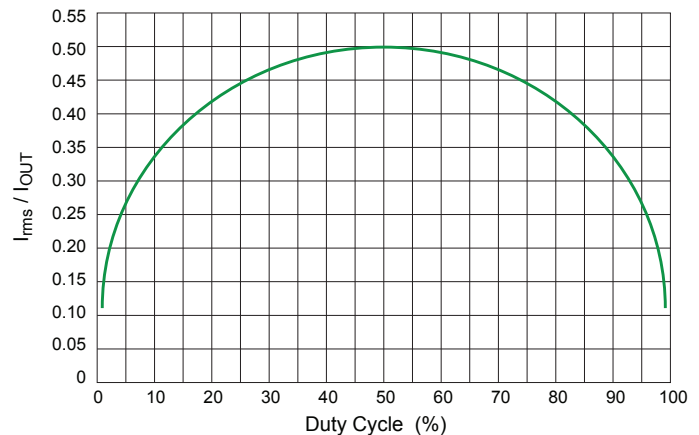

Figure 11. Input capacitor ripple versus duty cycle
Figure 11 shows the normalized input capacitor rms current versus duty cycle. To use this graph, simply find the operational duty cycle (D) on the x-axis and determine the input/output current multiplier on the y-axis. For example, at a 20% duty cycle, the input/output current multiplier is 0.40. Therefore, if the regulator is delivering 2.0 A of steady-state load current, the input capacitor(s) must support 0.40×2.0 A or 0.8 A_{RMS}.